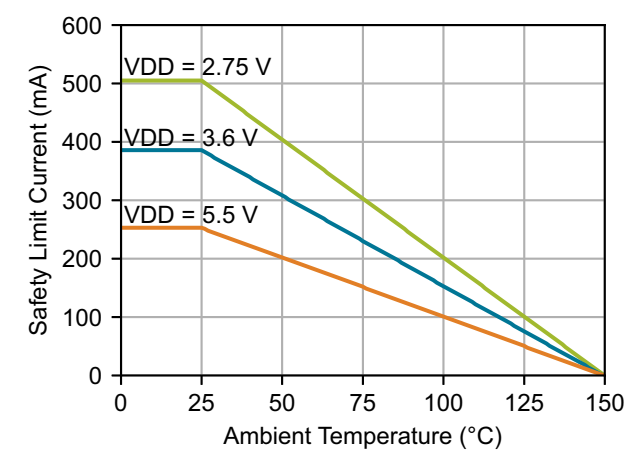
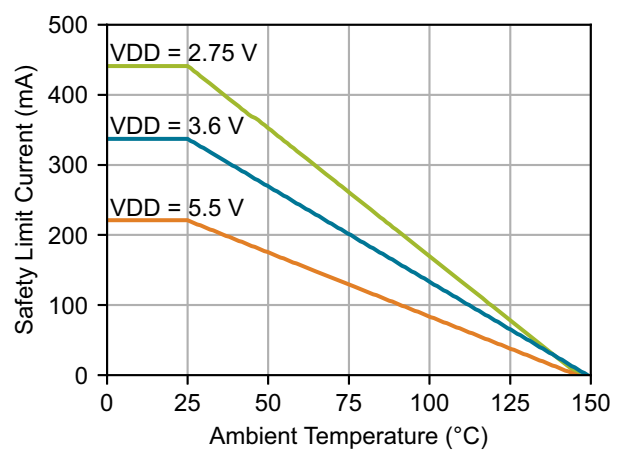

Figure 9. SSO-8 Thermal Derating Curve, Dependence of Safety Limiting Current
Figure 10. NB SOIC-8 Thermal Derating Curve, Dependence of Safety Limiting Current
1. Maximum value allowed in the event of a failure; also see the thermal derating curves in Figure 9 and Figure 10.